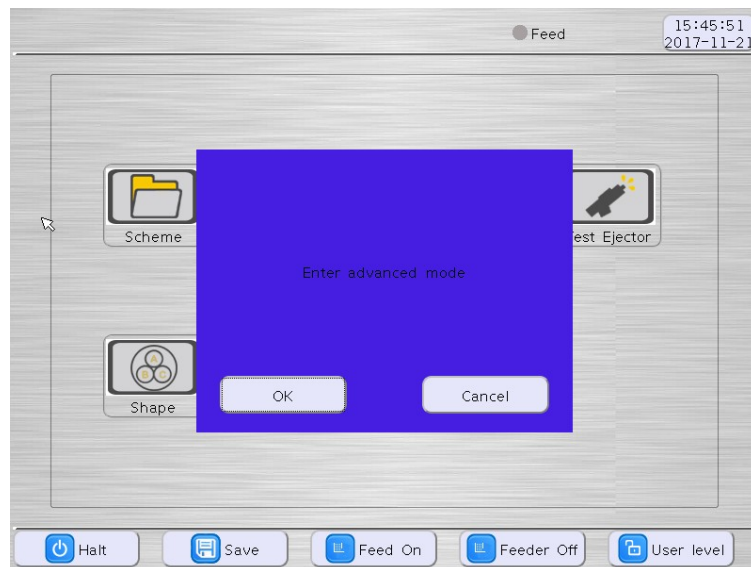

Figure 8-1
- 1) To log on to the advanced mode, click “User Level” button at the bottom of main menu and confirm by clicking on “Ok” button when you are prompted to confirm “Enter advance mode” shown in Figure 8-1, then you will be asked to input the password for the advanced mode, as shown in the Figure 8-2. Enter the password from the technical support, you will get into the main menu for the advanced mode of the machine, as shown in Figure 8-3.